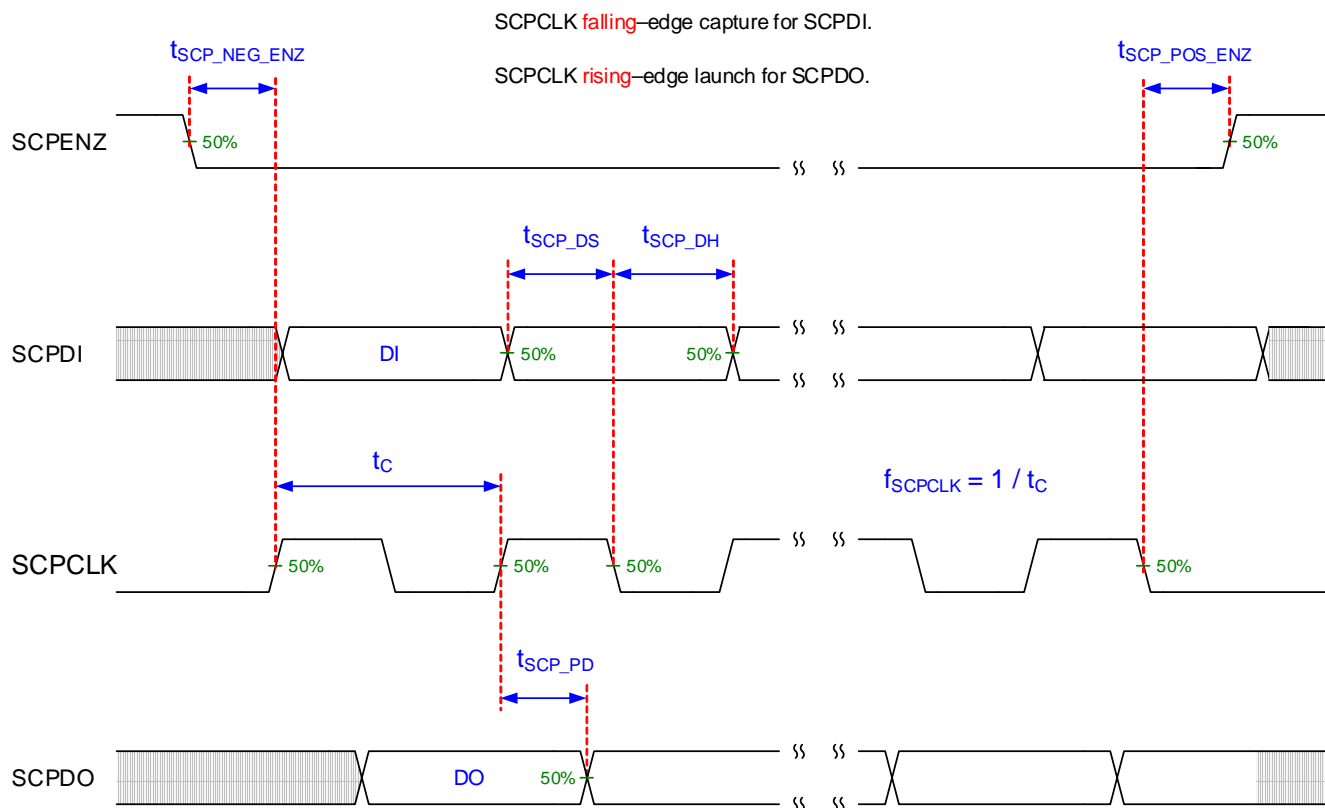

Figure 2. SCP Timing Requirements
(5) PWRDZ input pin resets the SCP and disables the LVDS receivers. PWRDZ input pin overrides SCPENZ input pin and tri-states the SCPDO output pin.
(6) The SCP clock is a gated clock. Duty cycle must be 50% ± 10%. SCP parameter is related to the frequency of DCLK.
(7) See Figure 2.